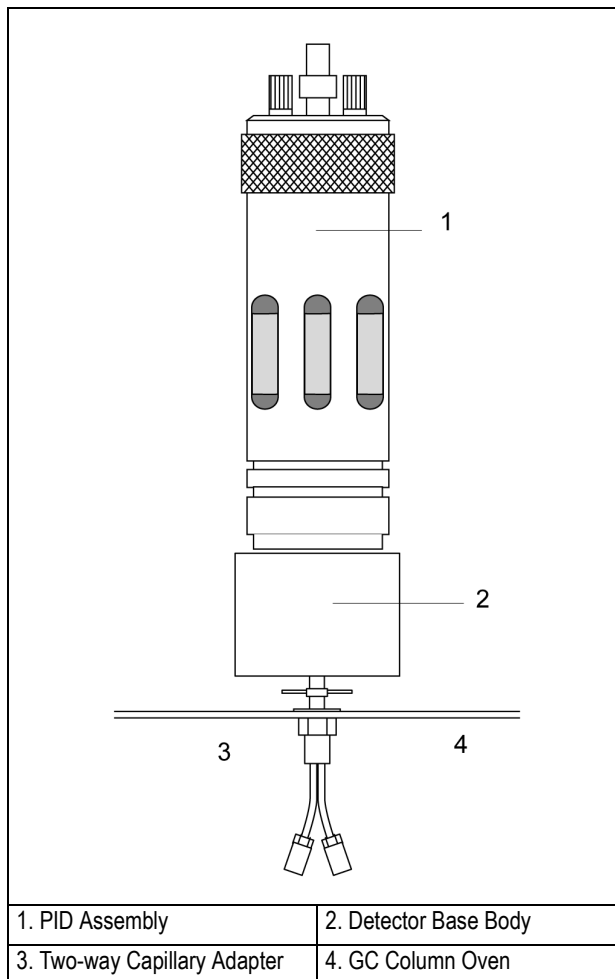

Figure D-8. PID Installation Result
11. Mount the two-way capillary adapter (**13**) to the lower part of the detector base body, inside the GC column oven, interposing the seal (**14**). The result of the operation is shown in Figure D-8.